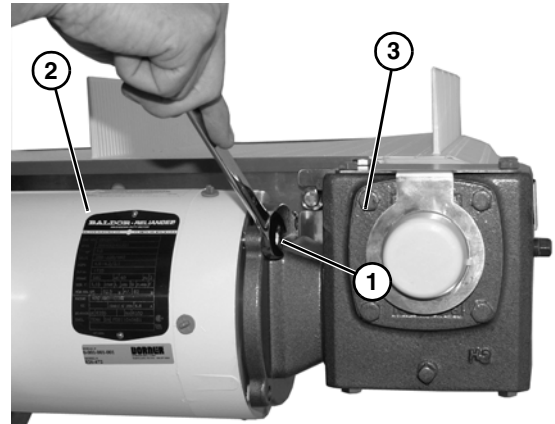

Figure 10
1. Remove four bolts (Figure 10, item 1) securing motor (Figure 10, item 2) to gear reducer (Figure 10, item 3).